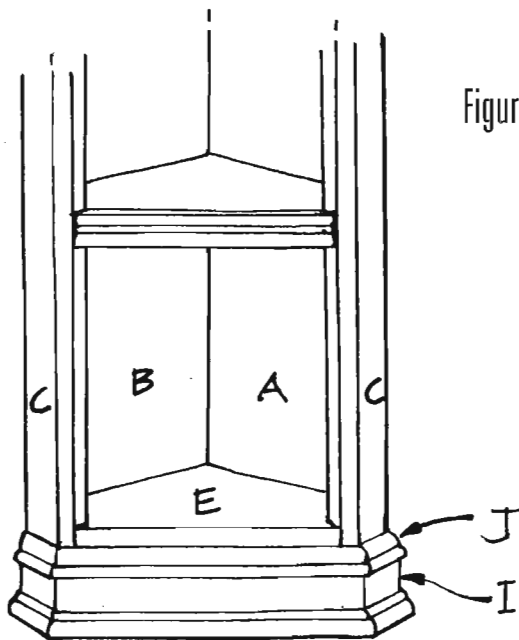

Figure 6
3. Standing each bottom trim piece (I) on its edge, miter one end of each of the shorter lengths and both ends of the longer piece. Set your saw to cut at $22\frac{1}{2}$ degrees, producing an angle of $67\frac{1}{2}$ degrees on the wood.
4. Attach the mitered pieces of molding along the bottom edge of the assembled cupboard, as shown in Figure 6. Use glue and 6-penny finishing nails, placing one nail every 3 inches. Countersink all of the nails.
5. Repeat steps 1 through 4, above, using screen molding (J) this time. Attach the cut and mitered strips of screen molding (J) directly above the decorative molding (I), as shown in Figure 6, using glue and finishing nails. Space the nails about 3 inches apart and countersink them.
6. Repeating the same process, attach $3\frac{1}{2}$ -inch-wide decorative molding (K) along the top edge of the assembled cupboard over the shelf trim. Again use glue and finishing nails spaced about 3 inches apart. Countersink the nails.